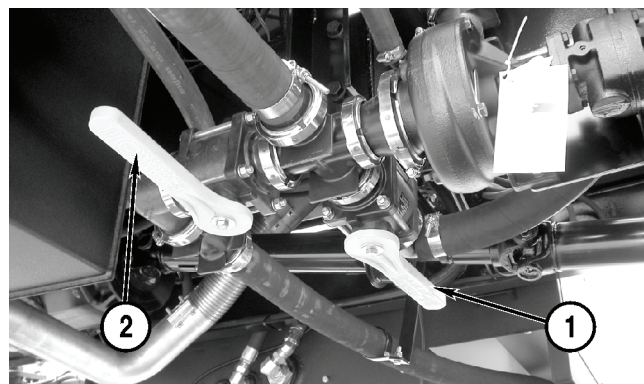

Figure 4-40
2. Close the product valve (**Figure 4-40, 1**).
3. Open the rinse tank valve (**Figure 4-40, 2**).